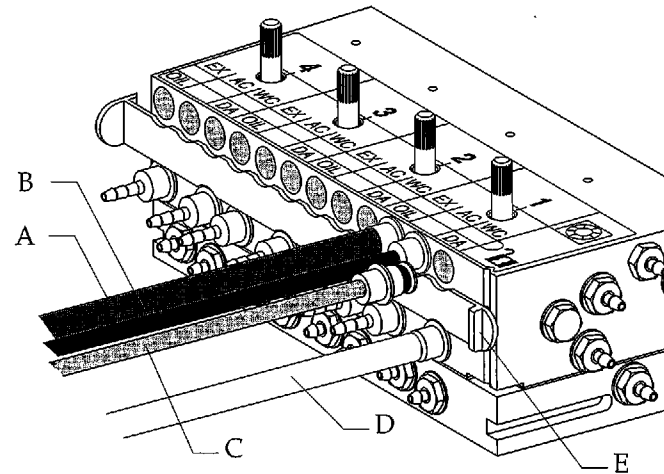

Figure 23. Identifying the inner tubing. (A) exhaust; (B) air coolant; (C) water coolant; (D) drive air; (E) slidlock
1. Open the control block slidlock, and attach each handpiece tubing to the control block (see Figure 23).